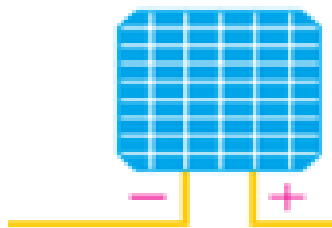

Figure 4: Solar cell panel.
- 1- Draw the parallel and series connections of the three cells as in figure 4 showing the values of the total current and voltage in each case.